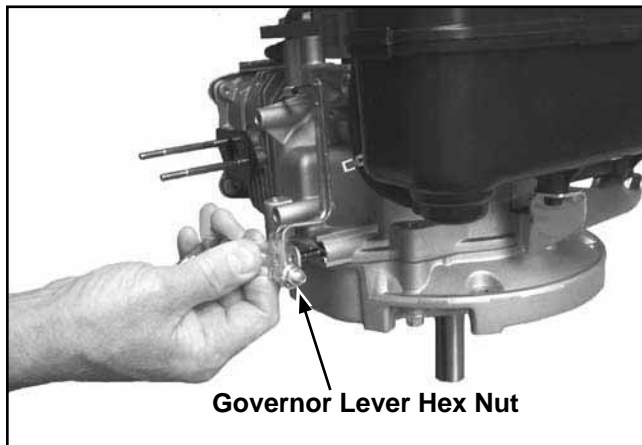

Figure 8-22. Removing Governor Lever.
1. Loosen the governor lever hex nut and slide the lever off the governor shaft. See Figure 8-22.